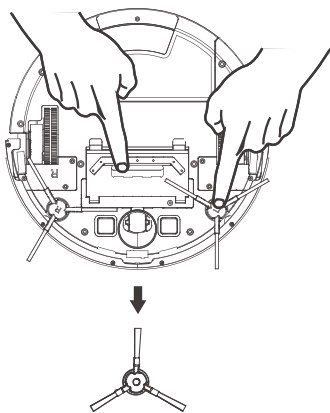

Figure 1
- Clean the side brush and ventilation unit when they become dirty and replace them if they become damaged. (See figure 1)